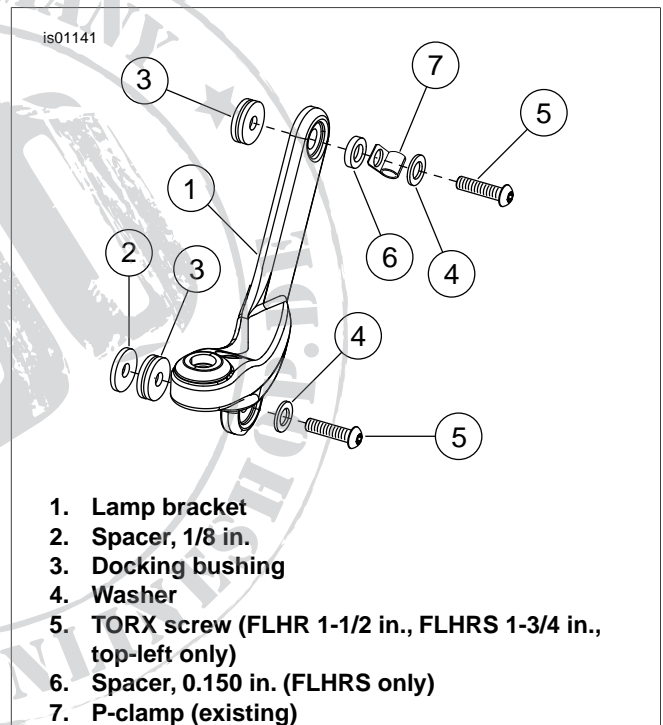

Figure 7. Lamp Bracket Assembly (FLHR/S) With Windshield
- For FLHR models: See Figure 7. Hold left side lamp bracket (1) in mounting position on motorcycle. Install 1/8 in. spacer (2), docking bushing (3), washer (4), and 1-1/2 in. TORX screw (5) in top and bottom locations. Tighten screws to 12-16 ft-lbs (16-22 Nm). Repeat for right side.
For FLHRS models: See Figure 7. Hold left side lamp bracket (1) in mounting position on motorcycle. Install 1/8 in. spacer (2), docking bushing (3), washer (4), and 1-1/2 in. TORX screw (2). Pivot lamp bracket upward. Install docking bushing (3), 0.150 in. spacer (6), clutch cable P-clamp (7), washer (4), and 1-3/4 in. (5). Tighten screws to 12-16 ft-lbs (16-22 Nm).